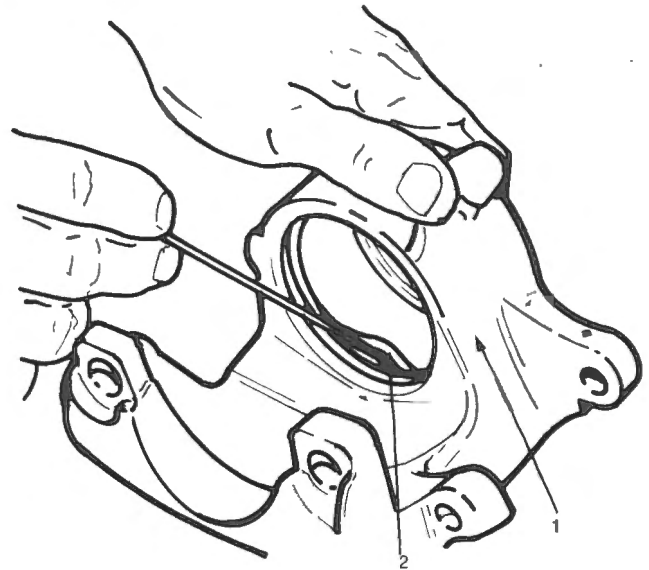

Fig. R-17
- 14 The piston seal is removed from the groove in the caliper cylinder by prising out with a pointed wooden or plastic rod. Fig. R-17. Be careful not to damage the seal seat.